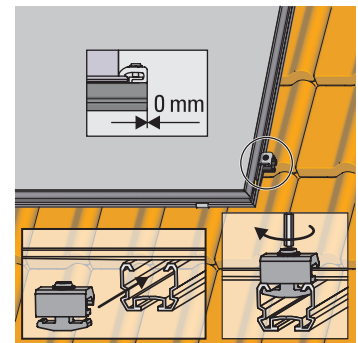

Fig. 3-28 Insert the individual clamping blocks for the last flat solar panel and tighten down.
11. Insert the individual clamping blocks for the last flat solar panel and tighten down (Fig 3-28).